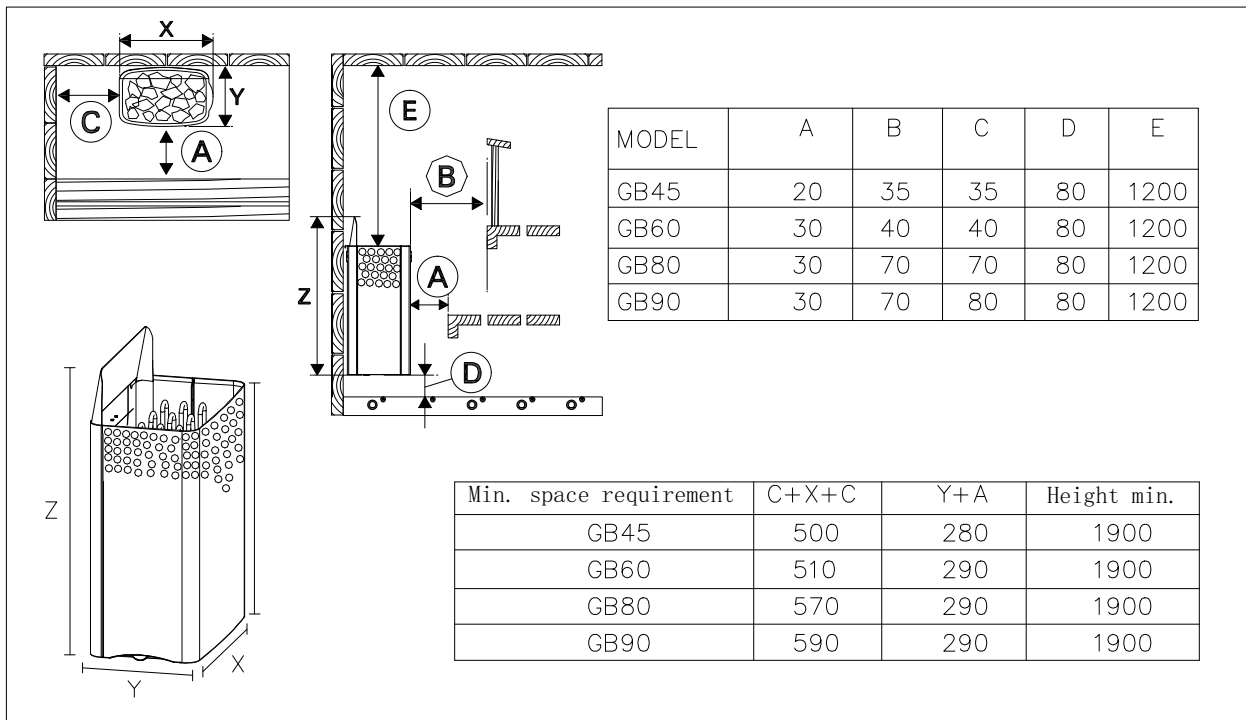

Figure 2. Minimum safety distances (all measurements in millimeters)
- The location of the heater fulfil the minimum requirements concerning safety distances given in figure 2
The minimum safety distances are shown in figure2.
If a safety railing is built around the heater, the minimum distances given in figure2 or in the railing's instructions for installation must be observed.